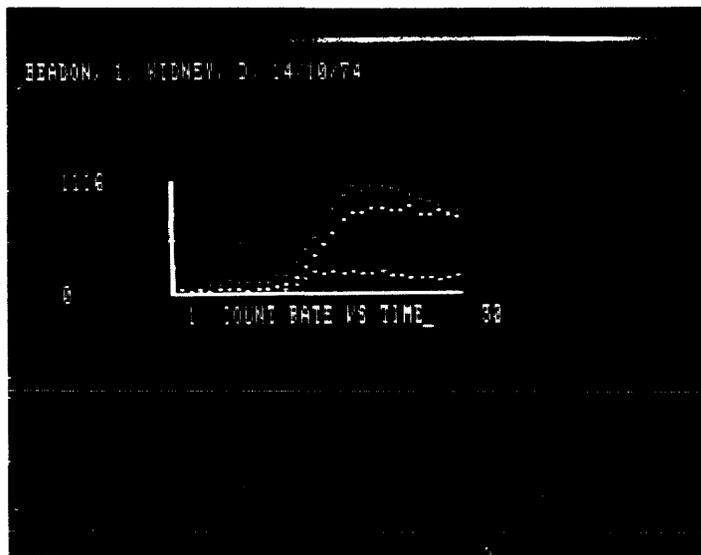

FIGURE 25. Dynamic curves of the 3 ROIs
- 4) plot the curves and save them in a save area (SD_n) (Figure 25).